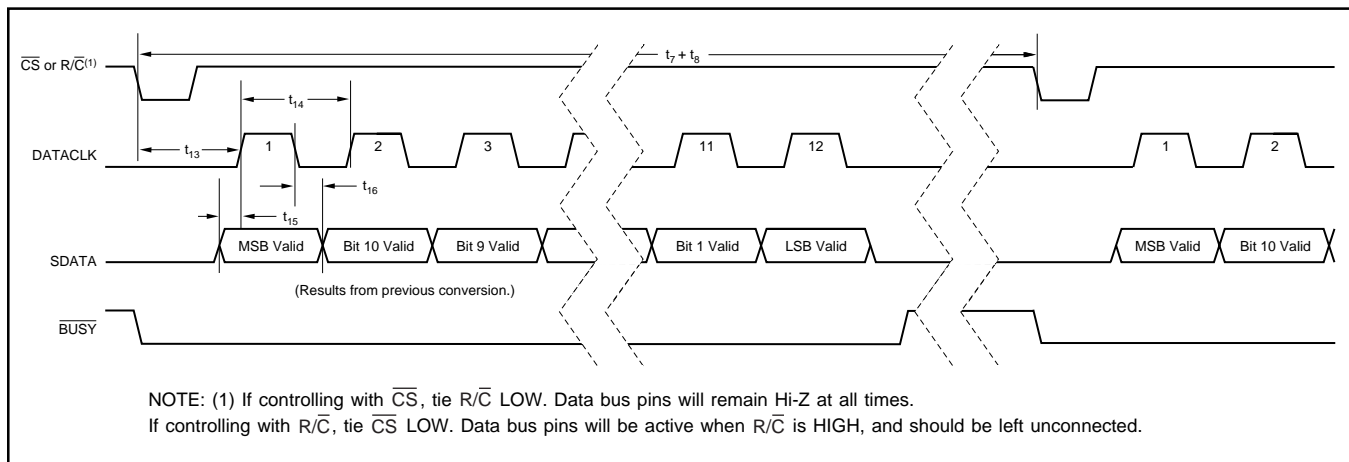

FIGURE 4. Serial Data Timing Using Internal Data Clock (TAG tied LOW).
NOTE: (1) See Figures 4, 5, and 6 for constraints on data valid from conversion 'n - 1'.
To use the internal data clock, tie $\text{EXT}/\overline{\text{INT}}$ (pin 8) LOW. The combination of $\overline{\text{R}/\overline{\text{C}}}$ (pin 22) and $\overline{\text{CS}}$ (pin 23) LOW will initiate conversion 'n' and activate the internal data clock (typically a 900kHz clock rate). The ADS7806 will output 12 bits of valid data, MSB first, from conversion 'n - 1' on SDATA (pin 19), synchronized to 12 clock pulses output on DATACLK (pin 18). The data will be valid on both the rising and falling edges of the internal data clock. The rising edge of $\overline{\text{BUSY}}$ (pin 24) can be used to latch the data. After the 12th clock pulse, DATACLK will remain LOW until the next conversion is initiated, while SDATA will go to whatever logic level was input on TAG (pin 20) during the first clock pulse. Refer to Table VI and Figure 4.